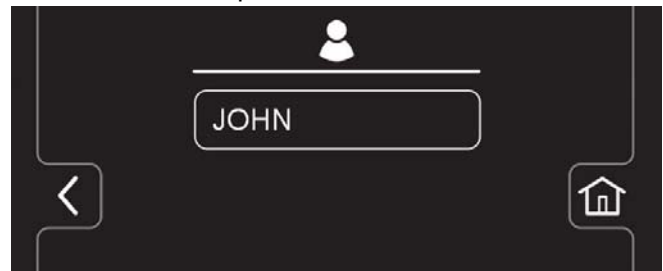

FIG. 164
7. The new user profile is now saved to the operator profile list as shown (Figure 164). Multiple Operator and Supervisor user profiles can be added. Press the back arrow to return to the previous screen to add more user profiles.